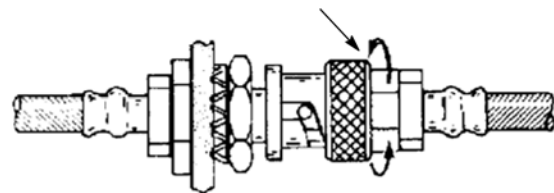

Figure 12
1. Align the slots in the plug collar with the lugs on the jack. See Figure 12.